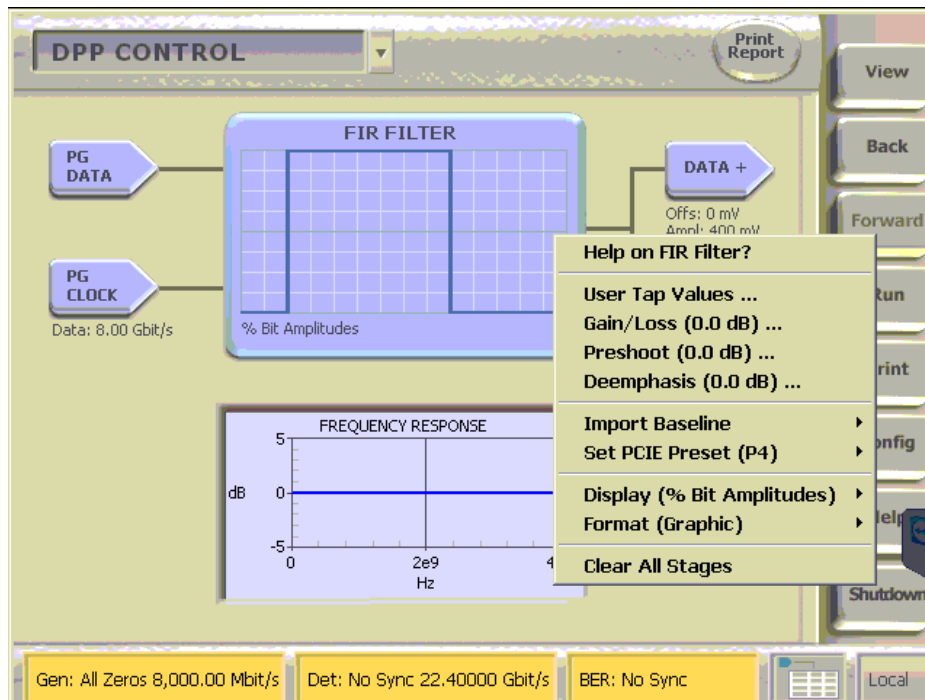

FIGURE 56. BERTSCOPE SETUP
6. Default the DPP to 0.0dB Preshoot and Deemphasis, as shown in Figure 56.